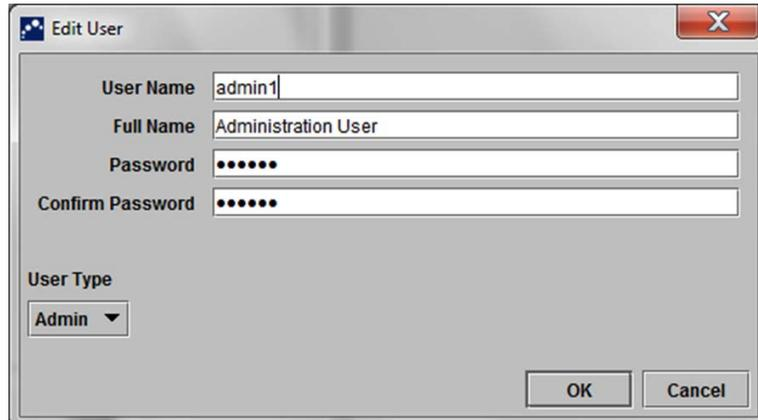

Figure 2-73. Edit User Dialog Box
3. Click **Edit**. The Edit User dialog box appears. See Figure 2-73.